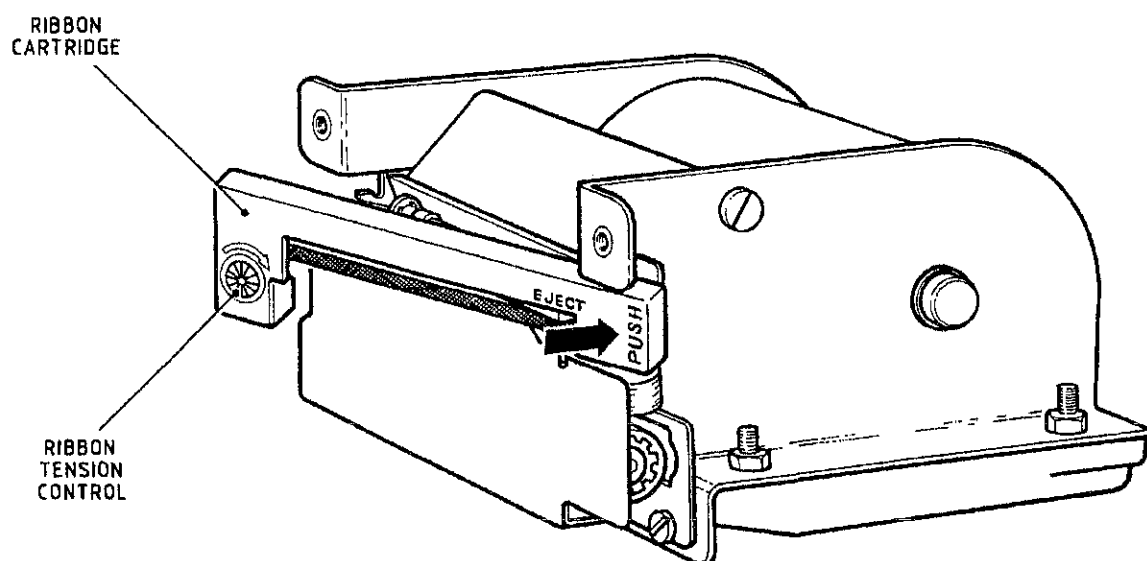

Fig 2 Ribbon Cartridge Replacement
12.6 Press on the ribbon cartridge area marked PUSH (Fig 2) until it tilts outwards. The cartridge may then be removed and discarded.